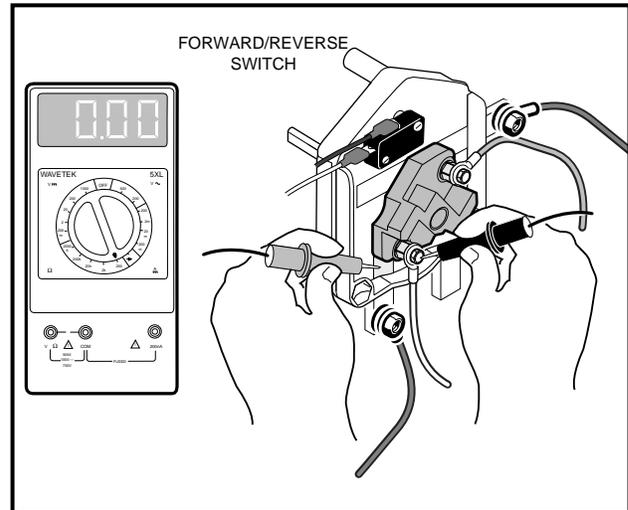

Figure 11-13 F&R Switch Test - Step 1.2
- 1.2. With the F&R switch in FORWARD, place the red (+) probe on the *forward* terminal lug (with the six gauge red wire attached) of the F&R switch, and place the black (-) probe on the movable contact (with the white wire attached) on the forward and reverse rotor (**Figure 11-13, Page 11-11**). The reading should be continuity.